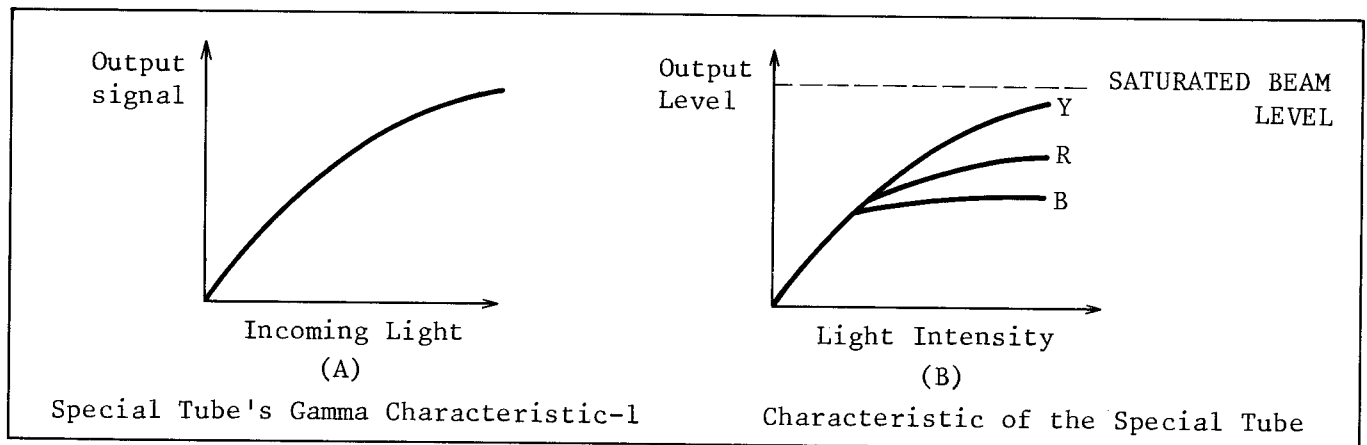

Fig. 14.
As described earlier, the special tube does not have linear photoelectric conversion characteristics. A typical special tube gamma characteristic is shown in Fig. 14 (A). Because of this inherent characteristic, the higher levels of the video signal will be compressed, see Fig. 14 (B).